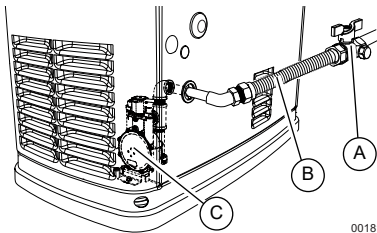

Figure 5-2. Sediment Trap, Fuel Shutoff Valve with Manometer Port, and Flexible Fuel Line
See Figure 5-2. The generator will require an external manual fuel shutoff valve (A) on the fuel line.
See Figure 5-2. When connecting flexible fuel line (B) to generator, use a listed assembly meeting the requirements of ANSI Z21.75/CSA 6.27—Connectors for Outdoor Gas Appliances and Manufactured Homes or AGA-approved flexible fuel line in accordance with local regulations.
See Figure 5-2. Some local codes require a sediment trap (C). The fuel regulator connection has an integrated sediment trap.
NOTE: Fuel pressure can also be tested at manometer port on fuel shutoff valve shown in Figure 5-2.